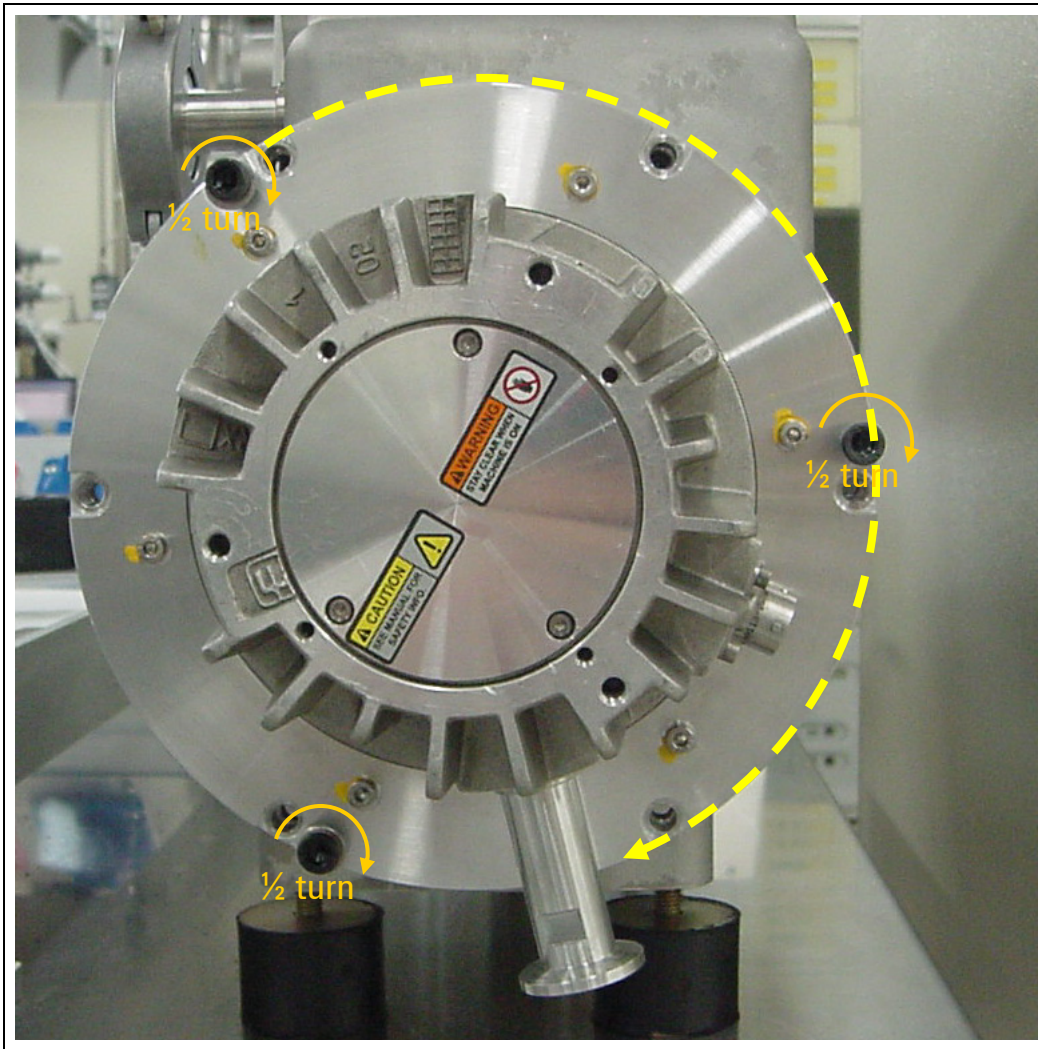

Figure 39
- Screw in the 3 M6 screws clockwise, starting anywhere, half turn/lap (Fig. 39).